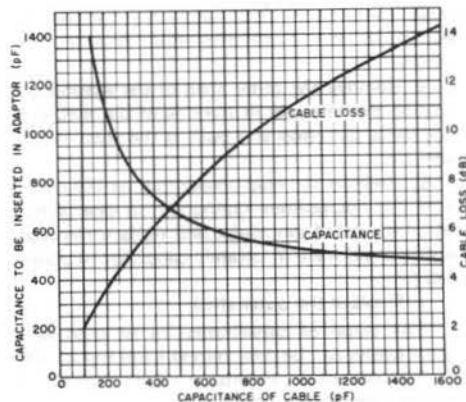

Figure 3-5. The chart shows the compensation required for the capacitance of various extension cables and the corresponding cable loss.
Also, cable losses will cause the meter to read low by an amount that varies with the cable length. Figure 3-5 shows the loss and the value of the compensating capacitor for cable capacitances between 150 and 1500 pF.
The Type 1560-P73 Extension Cable (P/N 1560-9673), for use with the SLM is a 25-foot cable, fitted with standard 3-terminal microphone connectors. A Type 1560-P96 Adaptor (P/N 1560-9696) and a Type 1560-3040 Microphone Base, P5 base, or P5 microphone complete, are needed to mate the SLM and the microphone with the connectors. The capacitance of the Type 1560-P73 Extension Cable is approximately 550 pF. Figure 3-5 shows that a series capacitor of 640 pF is required for this
The value of capacitance to be used with other cables can be determined from Figure 3-5.
e. Install the extension cable between the SLM and the microphone base (para. 3.6). The loss for the Type 1560-P73, 25-ft Extension Cable is found from Figure 3-5 to be 7.8 dB. This value must be added to the reading of the SLM to obtain the actual sound level. Or the correction can be determined with the Type 1562 Sound-Level Calibrator, set to produce a level of 114 dB at the microphone.